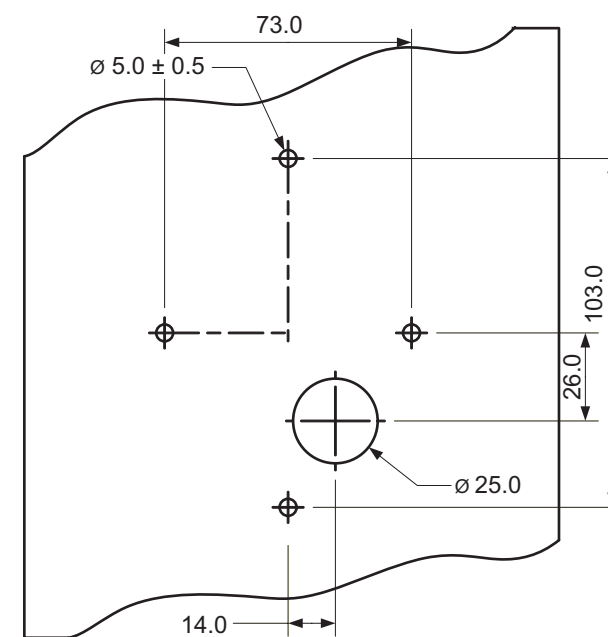

Figure 1 Cutout Drawing
3. Drill the holes at the desired location on the panel as shown in Figure 1. Use the 1:1 cutout template on the back of this document.